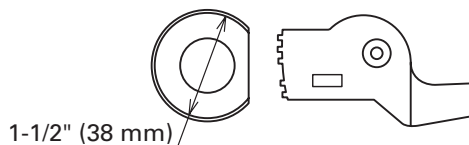

Fig. 27
| (3) Center Roller (D 38) Set (Fig. 27)(Code No. 321445) |